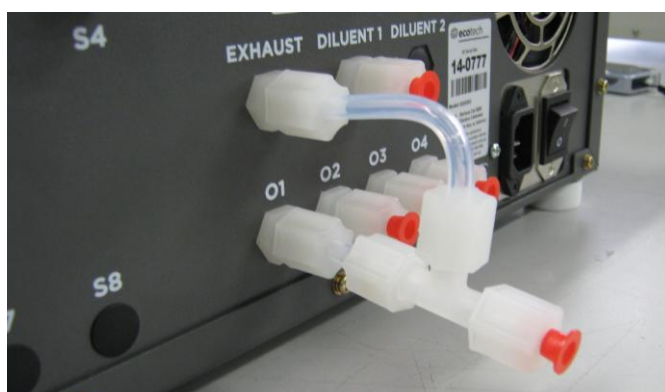

Figure 28 – Connecting the Output and Exhaust Ports Serinus Cal 3000 Only
1. To ensure consistent pressure while using the Serinus Cal 3000 the exhaust port and one of the output ports must be connected together and run to the exhaust (refer to Figure 28).
The exhaust port is where the output of the purge valve is connected as well as the output of the Ozone generator when it is not in use. In the case of the Serinus Cal 3000, the exhaust of the internal photometer pump is connected to this port (refer to Figure 28). The exhaust port must be connected to an exhaust manifold venting to a suitable location outside the room and away from the sample inlets of gas analysers in the system.